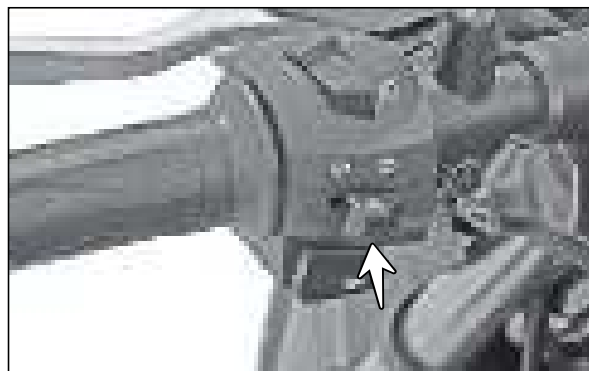

Fig. 5.25
- The switch turn signal is located on the switch assembly handle LH. (Fig. 5.25)